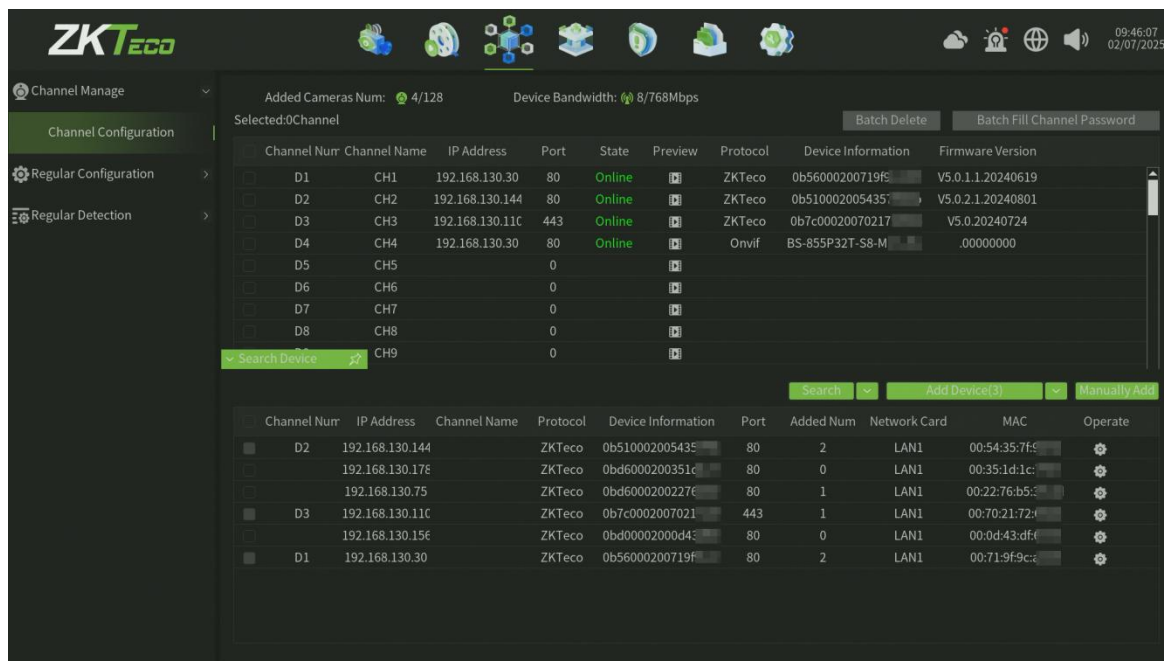

Figure 6.2 Adding IP Camera with conditions
4. After the Stop time out, you can select the camera you want to add into NVR, or search again. By the way, you also can choose the Add method (**Do not modify IP address**, **Force Modify IP Address**, **Modify IP address when unable connected**), as shown in figure 6.2